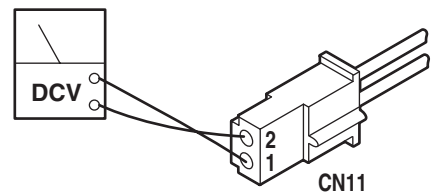

Figure 6-21. Motor Input Voltage
2. Activate any function and use a DC voltmeter to measure across the two pin connector. Pin 1(+) and pin 2(-). See figure 6-21. Meter should read 24-28 volts.